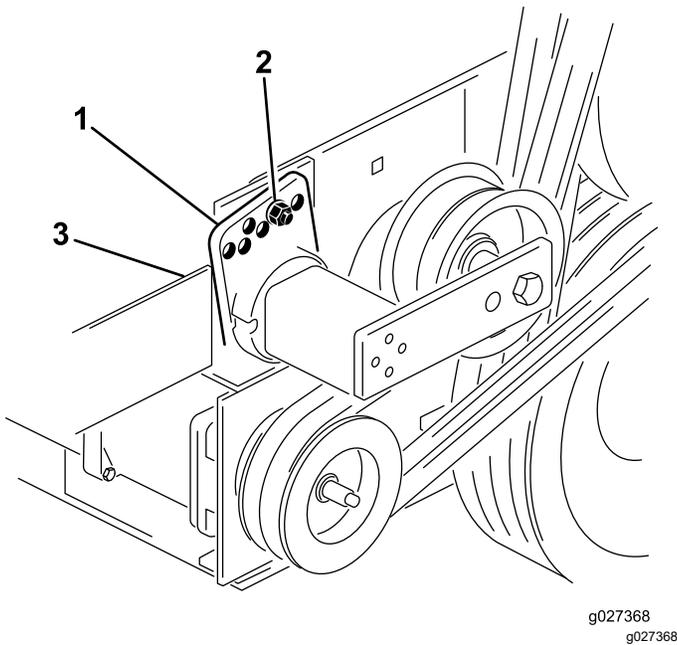

Figure 15
3. Remove the bolt and nut securing the tensioner guide to the drive mount to release the belt tension (Figure 15).